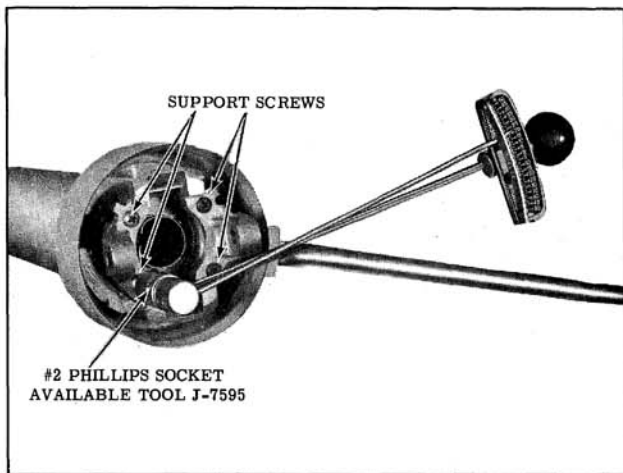

Fig. 8-109 Installing Support Screws
9. Install the support on the upper end of the mast jacket with the long leg aligned with the notch in the low side of the lock plate, then install the four attaching support screws. (Fig. 8-109) Torque the two larger (left) screws first, 20 to 25 ft. lbs., then torque the right two screws 20 to 25 ft. lbs. using a No. 2 Phillips Socket, J-7595.